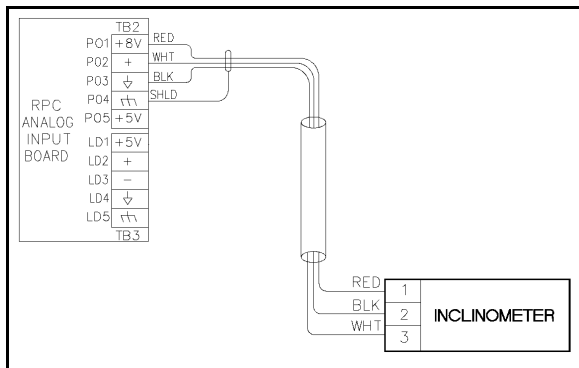

Figure 7-10. Inclinometer to Lufkin Well Manager RPC Wiring Diagram
The wiring procedures in this subsection cover the inclinometer. Use the following procedures to route and wire the cable from the inclinometer to the Lufkin Well Manager RPC. Consult the wiring diagram in Figure 7-10.
8. Insert the red, black, and white wires to the strip in the sequence indicated in Figure 7-10.
Follow the steps below and consult Figure 7-10 (page 7-18) to wire the inclinometer cable to the Lufkin Well Manager RPC.
4. Insert the wires, including the shield, in the appropriate terminal in **TB2**. Consult Figure 7-10.